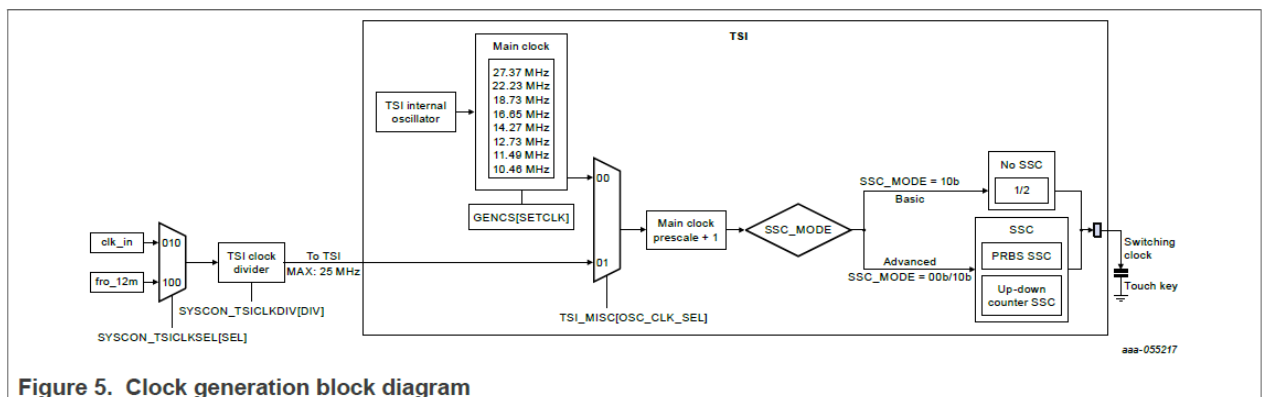

Figure 5. Clock generation block diagram
- As shown in Figure 5, one from the chip system clock can decrease the TSI operating power consumption, another is generated from the TSI internal oscillator. It can decrease the jitter of the TSI operating clock.